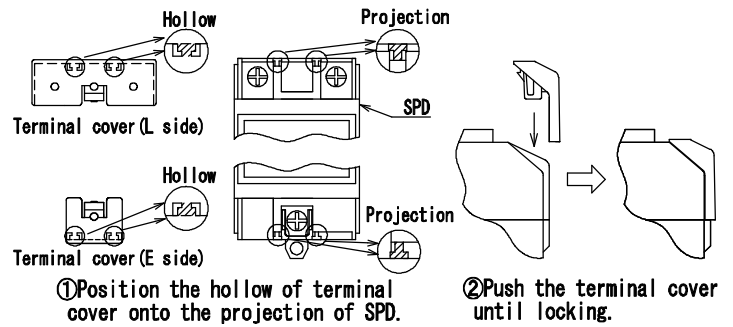

Fig.4 Installing the terminal cover
- a) After connecting the electric wire to the SPD, the terminal cover should be installed on the SPD not to remove it. (Ref. Fig.4)